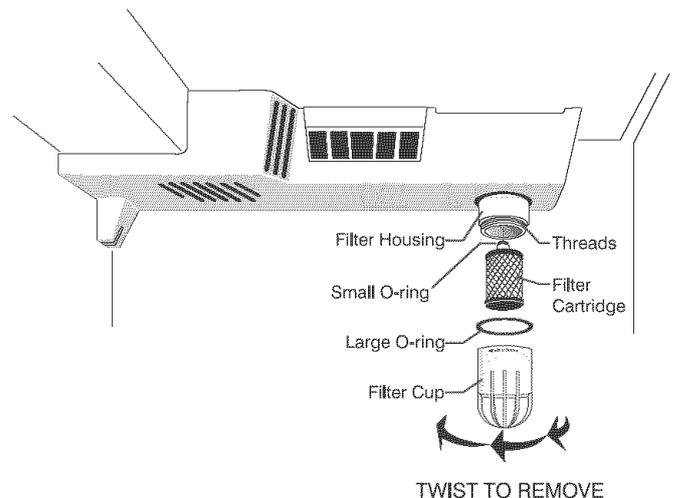

Figure 1
NOTE: If you purchased a refrigerator with a PureSource Plus™ Ice and Water filter, please read the following use and care information. This ice and water filter system filters water to your ice maker and water dispenser. It is located in the upper right back corner of the fresh food compartment (see Figure 1 on the following page).
Water supply does not need to be turned off, however do not use ice and water dispenser while installing filter. Refer to Figure 1 as you complete these instructions.
Refer to Figure 1 as needed. It is not necessary to turn the water supply off to change the filter.
2. Hold filter cup firmly, and unscrew counter clockwise (Figure 1). (Some water could leak out as you remove cup. This is normal.) Filter cartridge should come down with cup. If cartridge remains in housing, pull down gently, while twisting filter back and forth.
4. The large o-ring (Figure 1) that seals the filter system sets in the o-ring groove down inside the cup. Should the o-ring fall out during filter cartridge replacement, simply place it back in the groove prior to screwing the cup back in place. If the o-ring becomes damaged, you will need to order one from the Consumer Assistance Center.
10. Check for leaks. Open refrigerator door. Wipe any water drops from the filter cup. Run a glass of water. If there is a leak, unscrew filter cup, and reinsert the filter cartridge. Check placement of large O-ring (see Figure 1). Reinstall filter cup, making certain it is tightened completely.